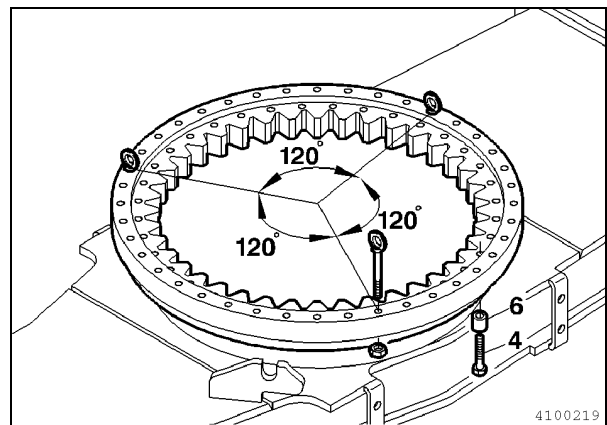

Fig. 3
- two cranes (lifting capacity 20,000 kg each), traverse as shown in Fig. 3 and lifting belts with a capacity of 20,000 kg for removal of the superstructure.
- The toothed inner ring (1) of the slewing ring is bolted to the undercarriage, whereas the outer ring (2) is bolted to the superstructure.
- Attach the superstructure to the lifting gear as shown in Fig. 3. Pull the slings tight without, however, lifting the superstructure.
- Loosen the screws (3) of the ball-bearing slewing ring in the superstructure, keeping the spacers (5) for re-use.